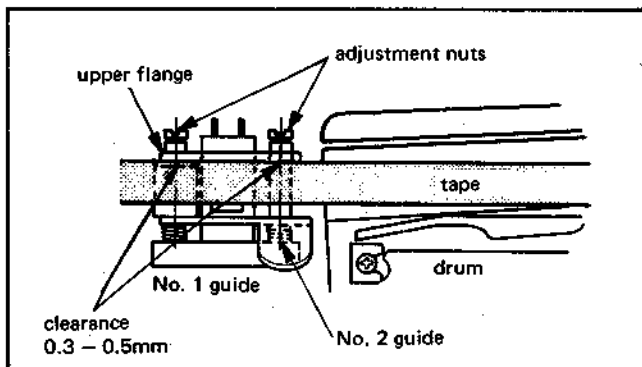

Fig. 1-7
- 1) Turn the No. 1 and 2 guide adjustment nuts counterclockwise, while observing with a dental mirror, so that the clearance between the upper flange and the tape is 0.3 – 0.5mm. (Fig. 1-7)